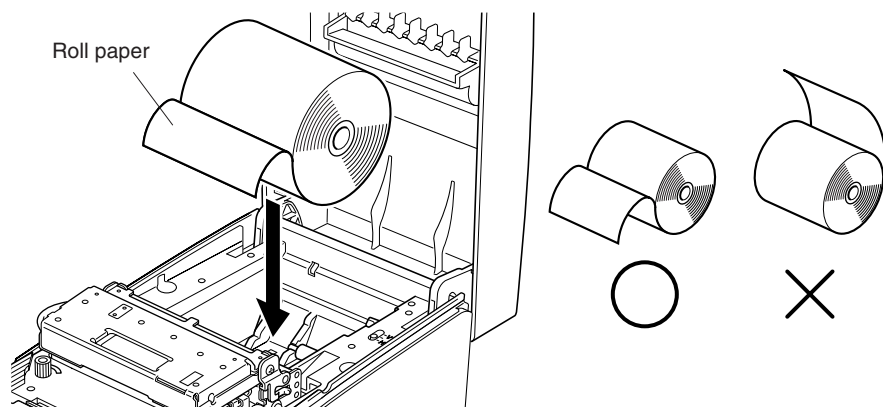

Fig. 5-13 Setting the paper
- ② Cut off the front edge of the roll paper perpendicularly.
- ③ Confirm that the power of the printer is turned on.
- ④ While observing the direction of the roll, set the paper roll into the hollow as shown in Fig. 5-13.